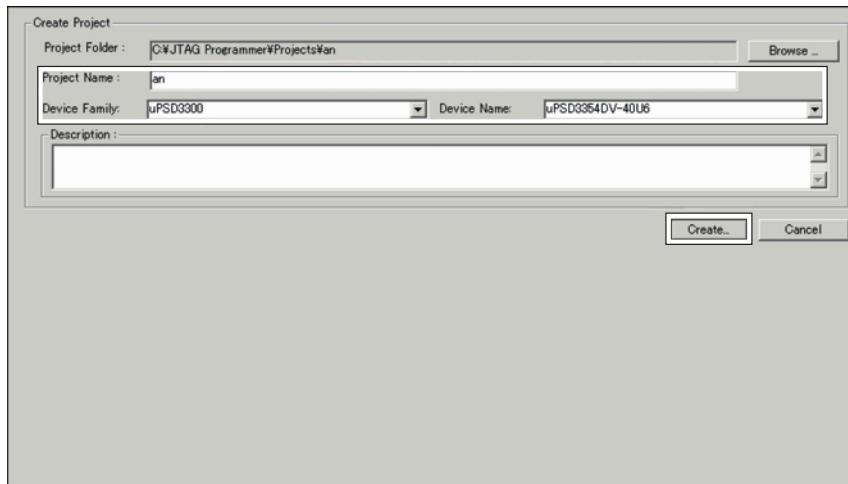

Fig. 2 Create Project screen
- 3) Select new project from the project menu. The following "Create Project" screen appears. (Fig. 2)